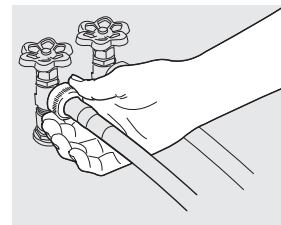

Fig. 5
5. Connect the HOT inlet hose to the HOT water supply and the COLD inlet hose to the COLD water supply. (Fig 5).